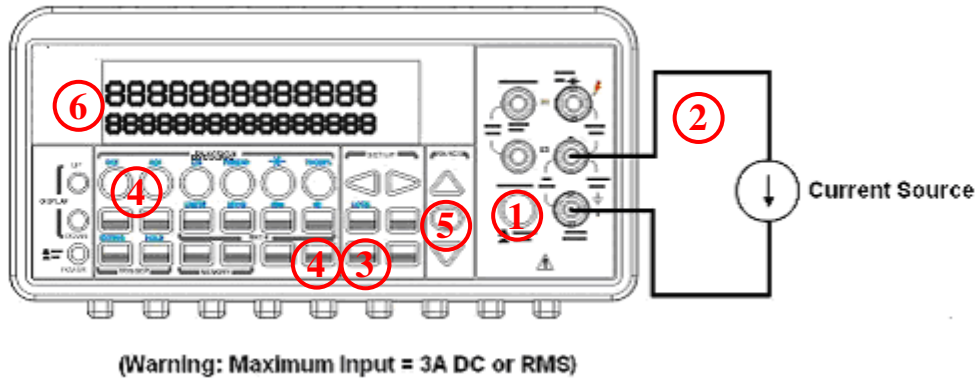

Figure 3-4
The ranges for DC current measurements in 12061 are 10mA, 100mA, 1A and 3A. For AC current measurements, the range is 1A with a sensitivity of 1 μ A to 3A AC-Coupled TRMS with a sensitivity of 10 μ A. **Figure 3-4** and **3-5** show you how to measure DC/AC currents in 12061.
- ① Selects input signal connections on front or rear panel.
- ② Connect the test leads to the terminals as shown in **Figure 3-4**.
- ③ Set RESOLUTION of DCI (Refer to 4.1.3), BANDWIDTH of ACI (Refer to 4.1.2.1) or skip this step if default is to be used.
- ④ Press SHIFT+DCV or SHIFT+ACV buttons for DCI or ACI measurement.
- ⑤ Select the auto-range function by pressing AUTO button on the front